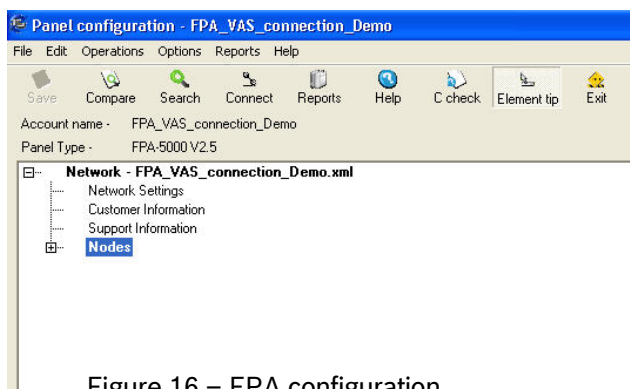

Figure 16 – FPA configuration
- 5) Select “Nodes” (figure 16) and select FPA-5000 (or 1200)